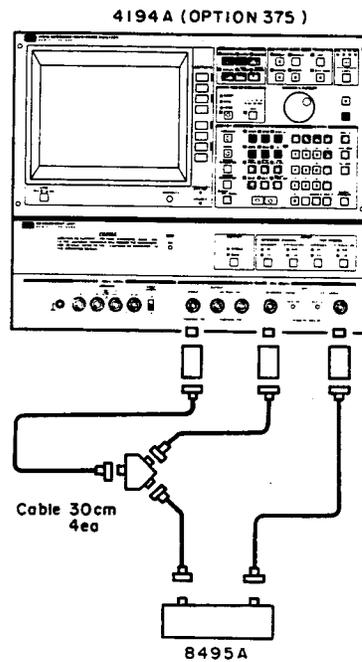

Figure 4-5. Gain-Phase Measurement Accuracy Test Setup: 75Ω
1. Set up the 4194A as shown in Figure 4-5.